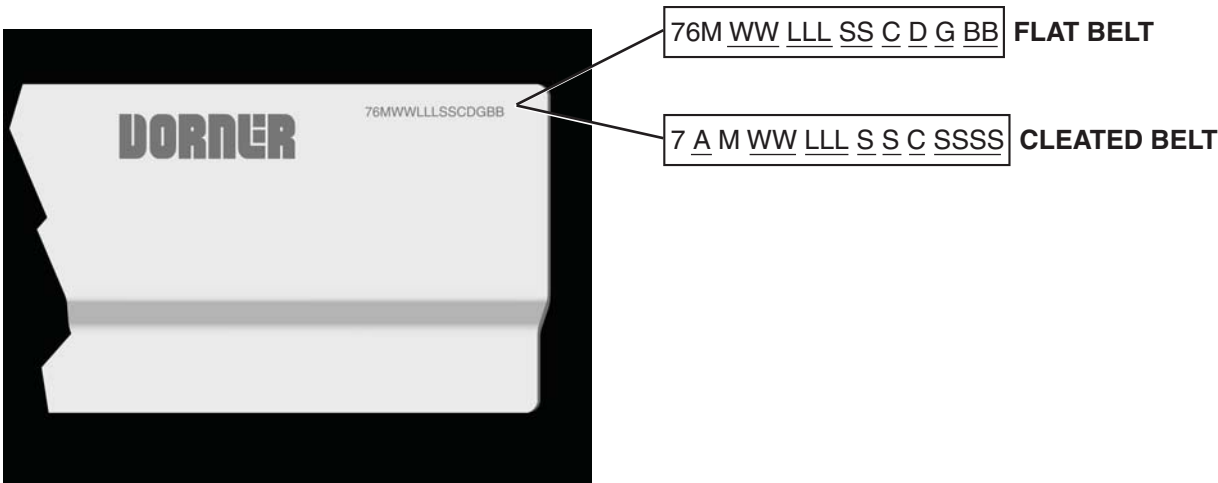

Figure 89
Refer to model number on the conveyor frame (Figure 89). From the model number determine the conveyor width (WW), length (LLL) and belt type (BB). Use data to configure belt part number as indicated below. *Add “V” for v-guided belts.
Refer to model number on the conveyor frame (Figure 89). From the model number determine the conveyor width (WW), length (LLL), cleat type (C) and cleat spacing (SSSS). Use data to configure belt part number as indicated below. *Add “V” for v-guided belts.